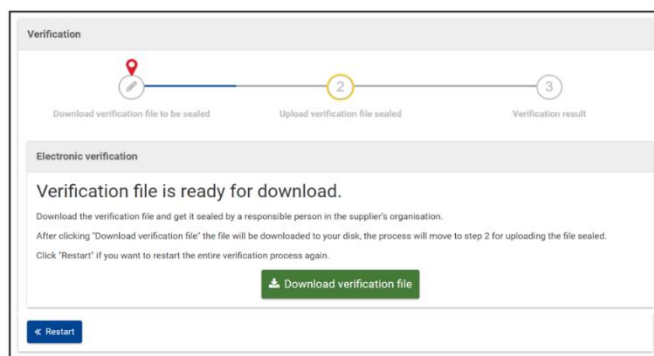

Figure 12: Verification File available for download
You can now download the Verification File (Figure 12). This file contains your Organisation identification data and is sealed by the European Commission. Please review it carefully before sealing. In case your data is not correct, you can restart the process anytime.
Step 3: once you have found your organisation in the BRIS system, the Business Registration Number is the second attribute, as shown in Figure 12